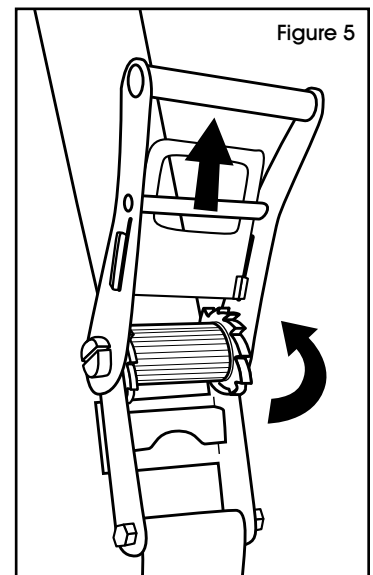

Figure 5
5. To release tension or remove tiedown, pull on Lock Release Handle and rotate main handle 180° to lock in the open position. Mandrel will be free to turn and release webbing. (See Figure 5)